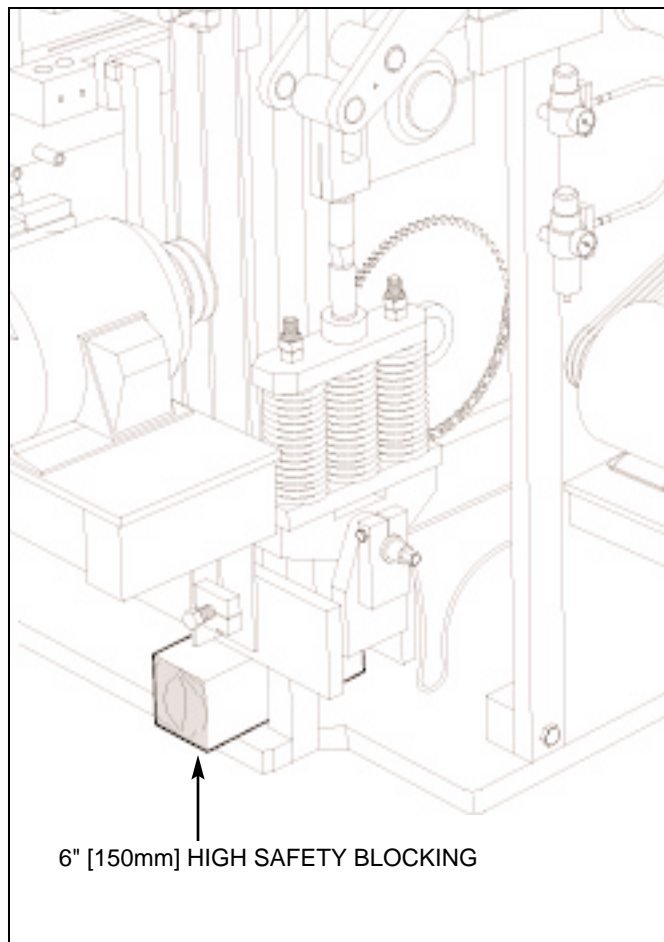

Figure 4.21 PLACING SAFETY BLOCKING.
- 4.2.10 Place safety blocking of **6" [150mm]** high under the pallet receiver frame (see figure 4.21).